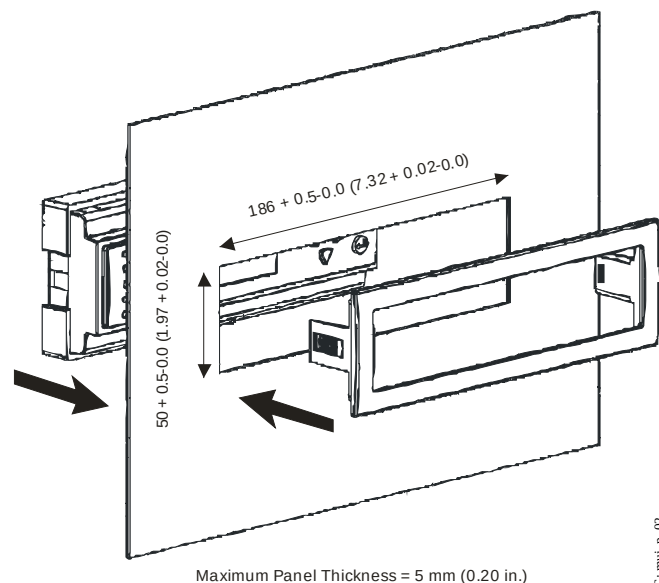

Figure 7: Panel Cut-out Dimensions, mm (in.)
2. Use the cut-out dimensions shown in Figure 7 and insert the panel mount bezel from the front side of the panel, and the MUI unit from the other side.